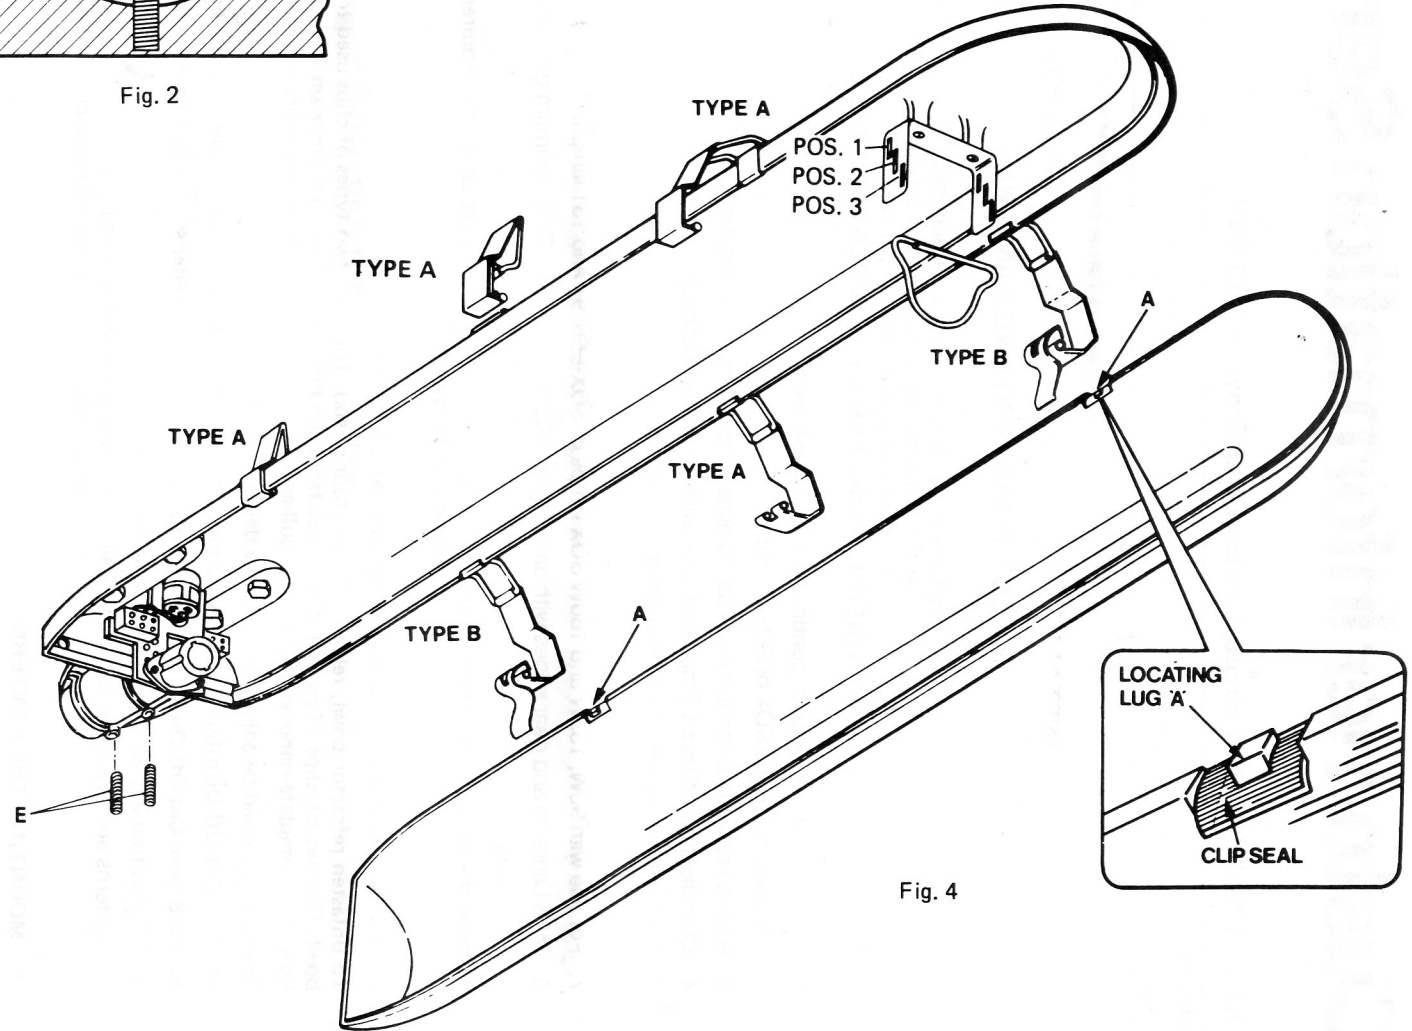

Fig. 4
3. INSTALLATION OF LANTERN WITH REMOTE CONTROL GEAR "S" VERSIONS (FIG. 4).